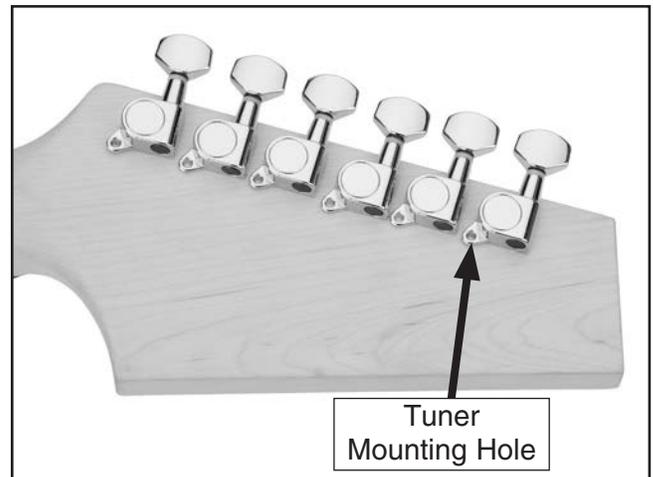

Figure 19. Tuners aligned to edge of headstock.
8. Insert the tuners into the bushings and mount them with the #2 x $\frac{3}{8}$ " screws, as shown in **Figure 19**.